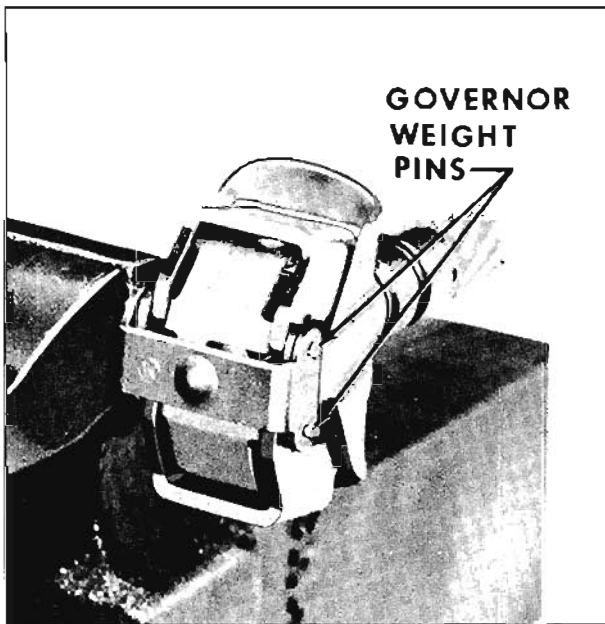

Fig. 6-382 Crimping Governor Weight Pins
7. Install NEW governor weight pins. Crimp end of pins in a vise. (Fig. 6-382)